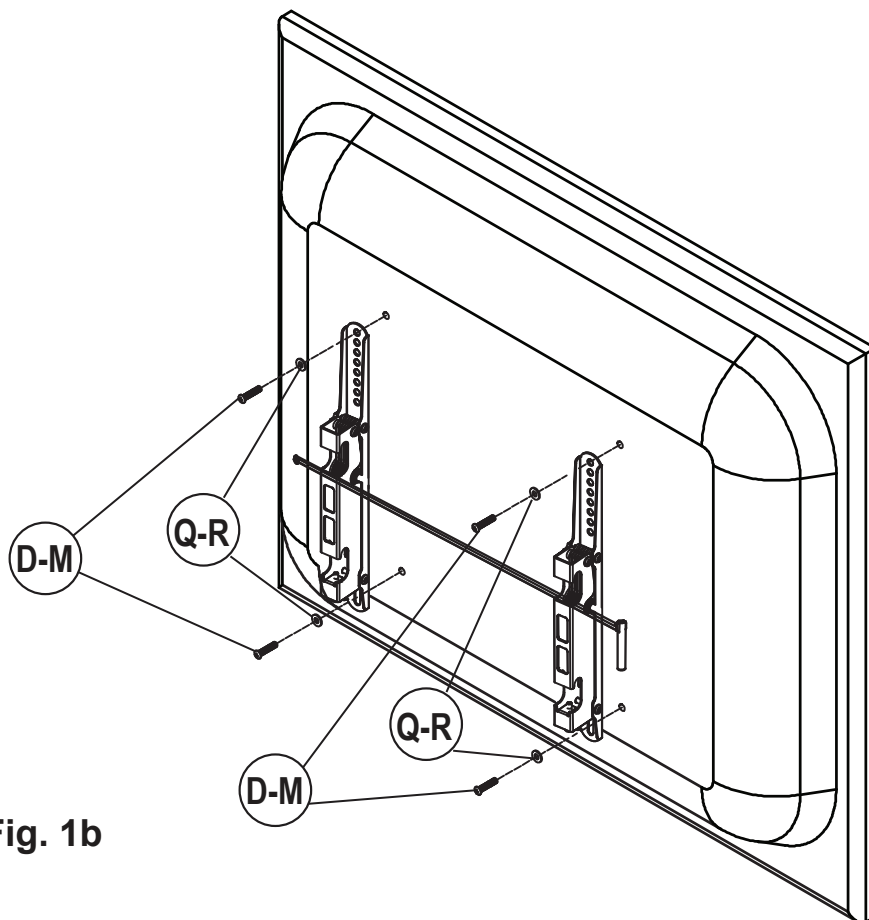

Fig. 1b
Center the **Brackets (2)** vertically on the rear of the TV. Attach the **Brackets (2)** to the rear of the TV using four of the **Bolts (D-M)** with the proper size **Washers (Q-R)** as shown in Fig. 1b. Tighten using the **Allen Wrench (4)**. Do not over tighten.